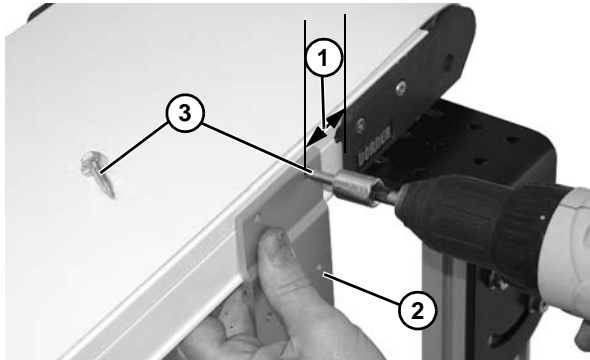

Figure 10
4. Measure an equal distance (Figure 10, item 1) from end of head plate (on both sides of conveyor) and mark placement of mounting brackets (Figure 10, item 2). Fasten mounting brackets to conveyor with mounting screws (Figure 10, item 3) following proper methods of attachment instructions on page 10.